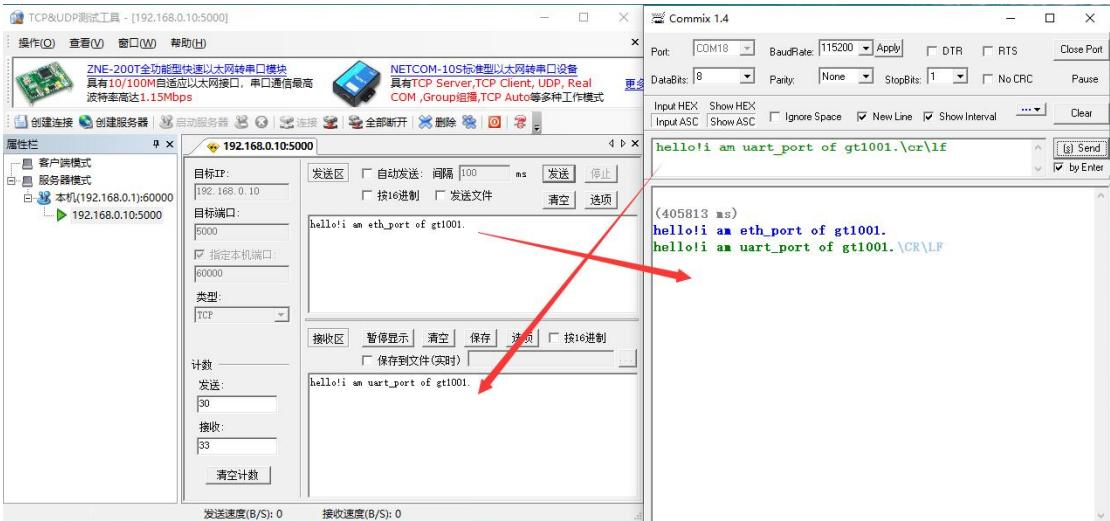

Figure 5-8 Serial port to network data transmission interface
(6) Serial port to network data flow transmission test: PC BB serial port-> GT1001 serial port-> GT1001 Ethernet port-> Computer AA network. Input the data in the sending area of the computer BB, and then click Send to receive the corresponding data on the computer BB As shown in Figure 5-8.